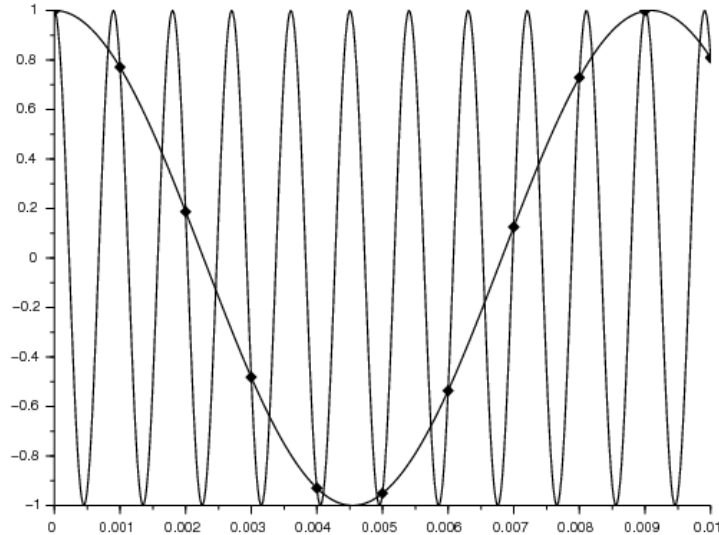

Figure 2: Aliasing of two sine waves.
Figure 2 on the next page shows an example of aliasing. Two possible input sine waves are shown: one has a frequency of 110Hz, the other has a frequency of 1110Hz. Both are sampled at 1000Hz. The dots show the value of the sine waves at the sampling instants. As indicated by (2) these two possible inputs both result in exactly the same output: after sampling you cannot tell these two signals apart.